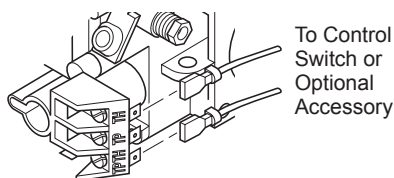

Figure 33 - Control Valve Terminals
1. Connect one terminal of 25 ft. wire for the wall switch to the TPTH terminal on the valve. Connect remaining wire terminal to the TH terminal on the valve. Make sure that the wire terminals are in the positions on the unit as pictured in Figure 33. If wires are not connected as shown, the switch will not work.
3. Connect one terminal of the wire for the wall thermostat to the THTP terminal on the valve. Connect remaining wire terminal to the TH terminal on the valve. Make sure that the wire terminals are in the positions on the unit as pictured in Figure 33, page 14. If wires are not connected as shown the thermostat will not work.
2. Disconnect wires from THTP and TH on control valve that lead to the switch (see Figure 33, page 19). Discard switch plate, screws, and nuts.
6. Connect the wires from the receiver to the valve at TH and THTP (see Figure 33, page 19).